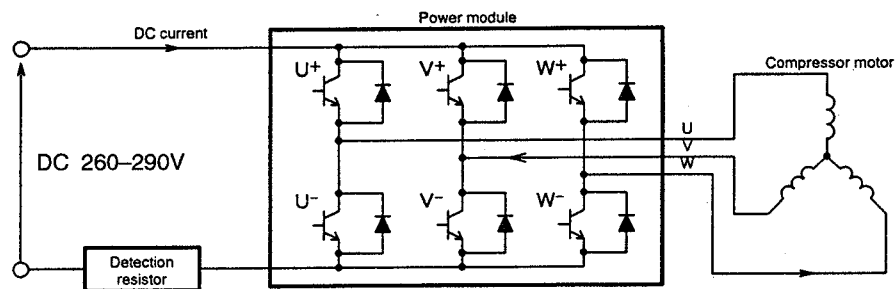

Fig. 8-9
- (1) Turns on the power module's U+ and V- transistors so the current flows to the motor windings as shown in Fig. 8-9.